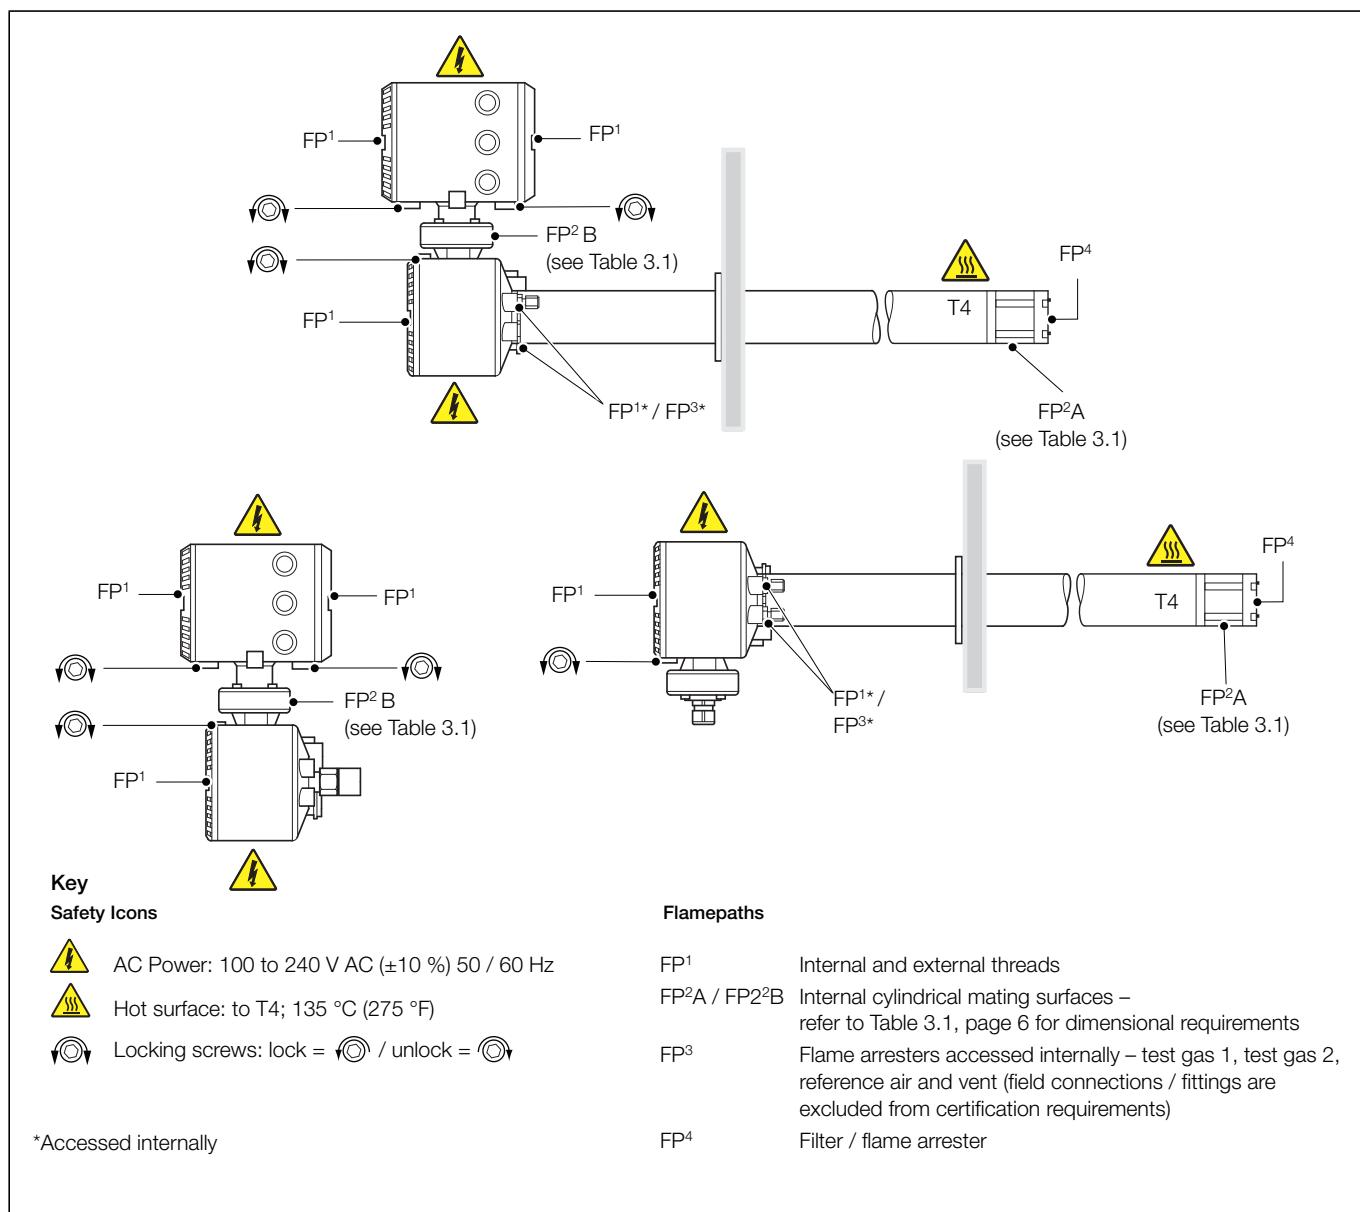

Fig. 3.1 Flamepath Locations and Key Product Safety Areas
**Warning.** Before installation and / or maintenance refer to Table 3.1 and Fig. 3.1 (page 7) to familiarize yourself with:
For dimensional checking purposes, Table 3.1 provides the values and tolerance of the spigot-type joints in the probe's construction – refer to Fig. 3.1, page 7 for flamepath FP2A and FP2B locations.